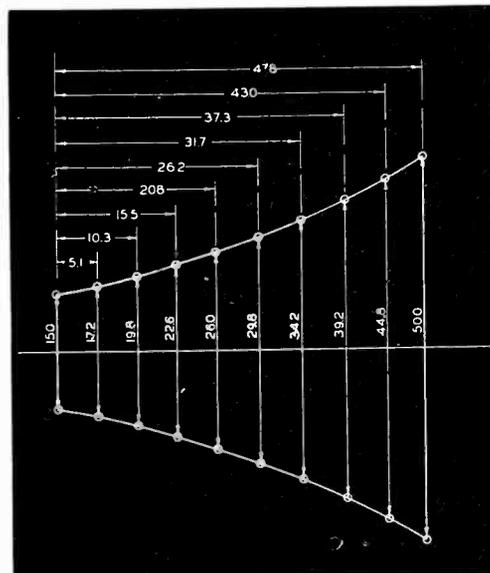

Fig. 2—Template for exponential horn of square cross section, laid out in accordance with the equations derived in this article
In a similar manner progressive values of  $x$  between 0 and 44 in. are chosen, and the corresponding values of  $y$  and  $L$  are computed from Eq. (3) and Eq. (6). With a series of such values available, the template, Fig. 2, may be laid out.